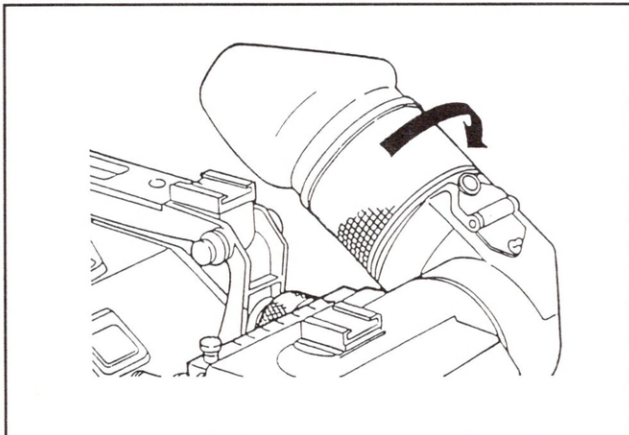

Figure 2
1. Turn diopter adjusting ring in the direction shown in Figure 2.